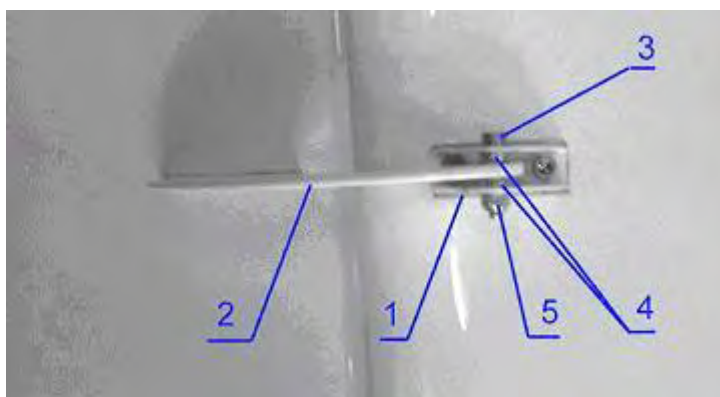

Fig. 3
Match hole in the aileron bracket (1) (KW2030020R) with hole in the bushing of the bearing of the wing bracket No.4 (2) (KW2010040), put 4 washers (4) (C9996504, Washer DIN 9021-6.4 mm VZ) between the wing bracket and the aileron bracket and connect them by the bolt (3) KW2020007 (do not fix the bolt by the nut (5) (C9996334, Self-locking nut DIN 985-M6, regular)) Fig. 3.
Using a washer C99965604 (Washer DIN 125 A2B-6.4 mm) and the nut (5) (C9996334, Self-locking nut DIN 985-M6, regular) fix the bolts KA2020005 and KW2020007 (3). Use new nuts only. Torque the nut with two 8x10 wrenches to 80 lb-in / 9 Nm, Fig. 2 and with one 8x10 wrench and one 5 hex-nut wrench to 80 lb-in / 9 Nm Fig. 3.